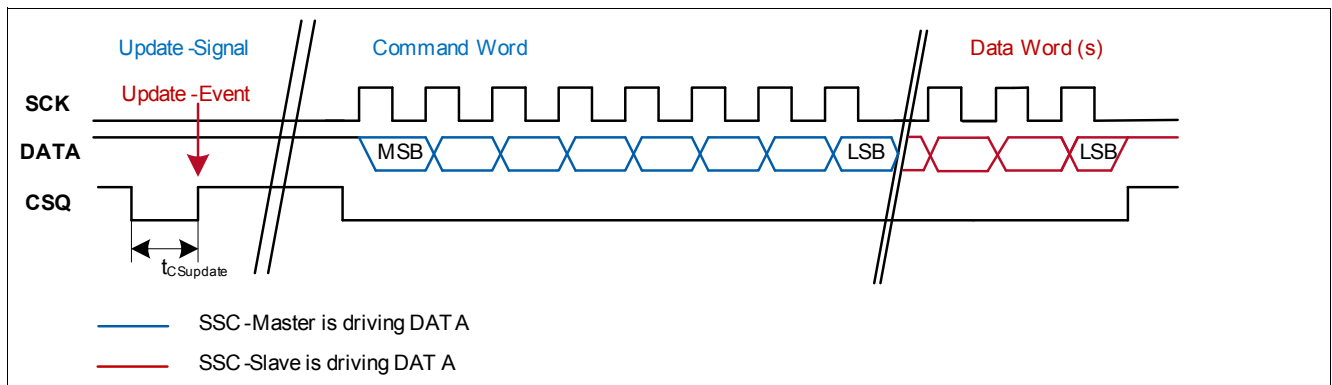

Figure 24 Update of update registers
| Update time | $t_{CSupdate}$ | 1 | | | μ s | See Figure 24 ¹⁾ |
- At a rising edge of CSQ without a preceding data transfer (no SCK pulse, see Figure 24), the content of all registers which have an update buffer is saved into the buffer. This procedure serves to take a snapshot of all relevant sensor parameters at a given time. The content of the update buffer can then be read by sending a read command for the desired register and setting the UPD bit of the Command Word to “1”.